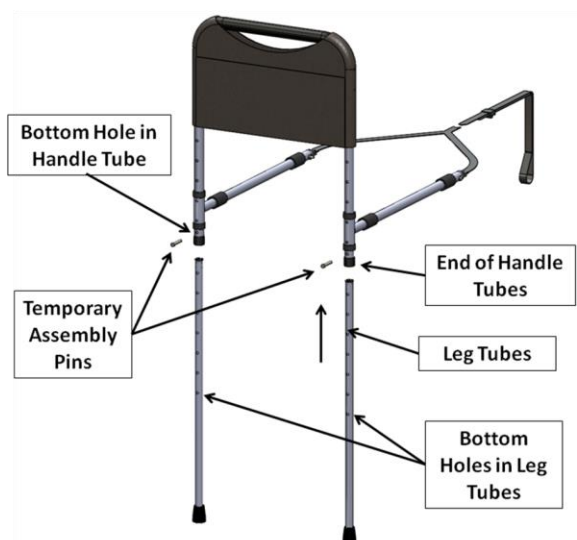

FIGURE 3
3. Insert Leg Tubes into End of Handle Tubes so that the Bottom Holes in the Leg Tubes align with The Bottom Holes in the Handle Tube. With the holes aligned, insert the Temporary Assembly Pins as shown in Figure 3.